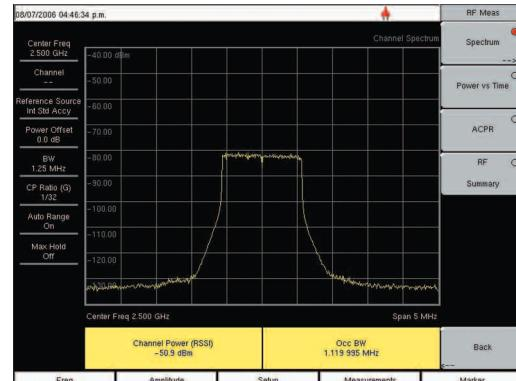

Figure 4. Spectrum view.
1. Select the Shift key, then the Mode (9) key.
11. Press the Spectrum soft key to activate the spectrum measurement. The red dot on the soft key indicates it is selected (Figure 4).